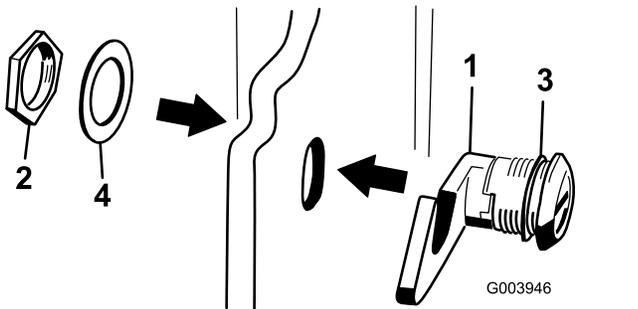

Figure 6
3. Remove the nut from the hood-latch assembly (Figure 6).
rubber-sealing washer remains to the outer side of the hood (Figure 6).